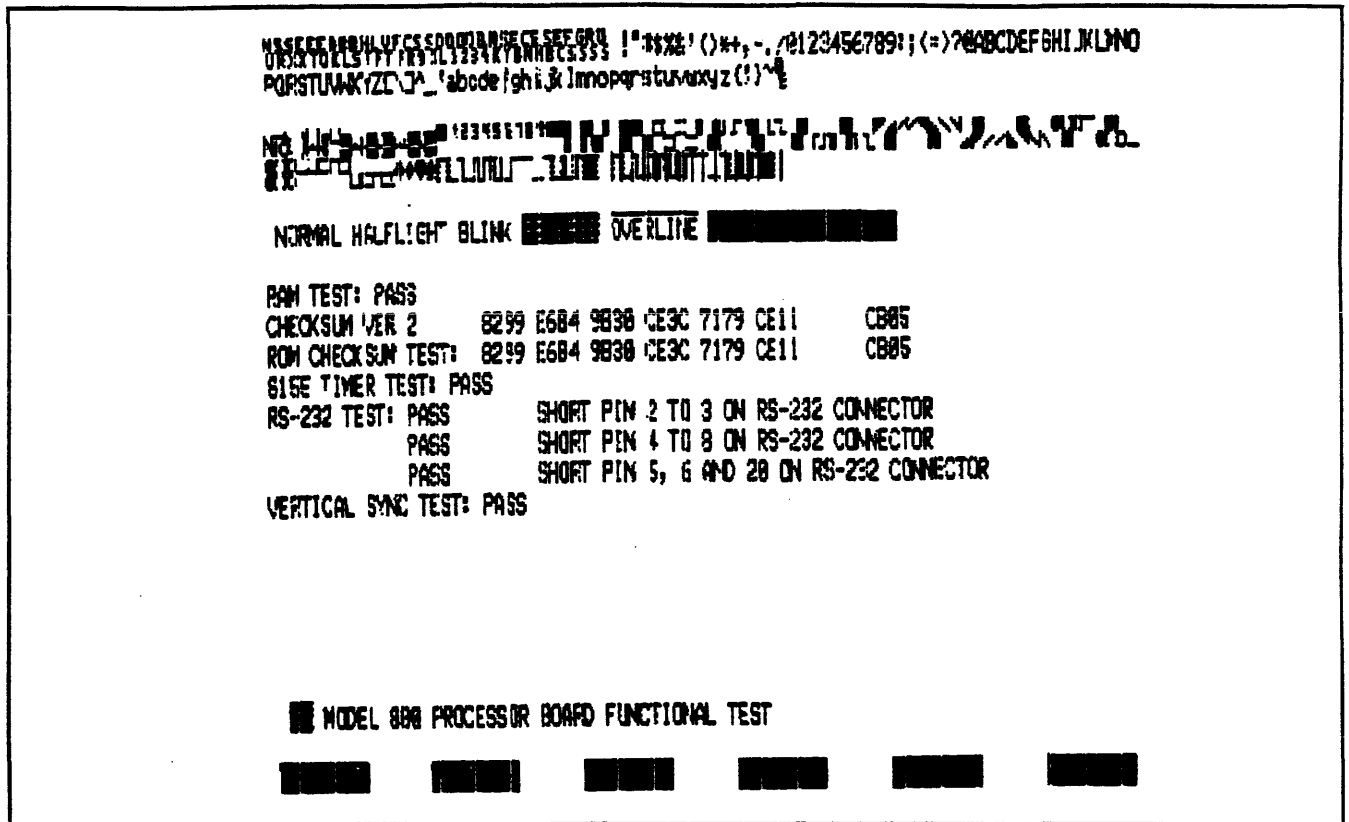

Figure 2-2: Self Test Screen
- e. Verify that the display appears as shown in Figure 2-2. To abort the test, hold down the RESET key for three seconds.